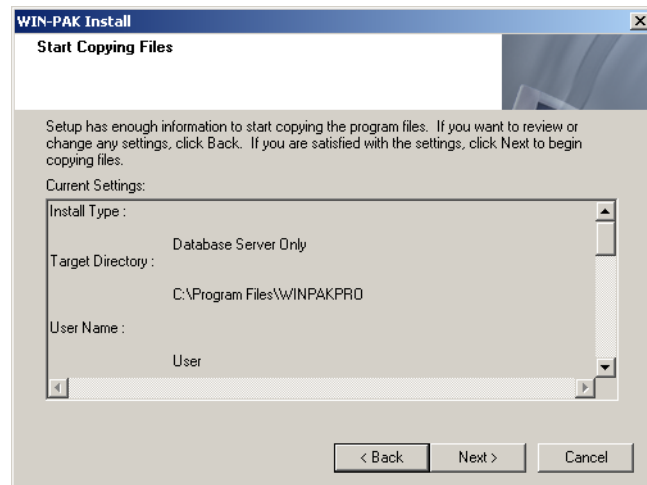

Figure 2-22 Start Copying Files
8. Click **Yes** to place the icons on your desktop. The summary of the selected information displays as shown in Figure 2-22.